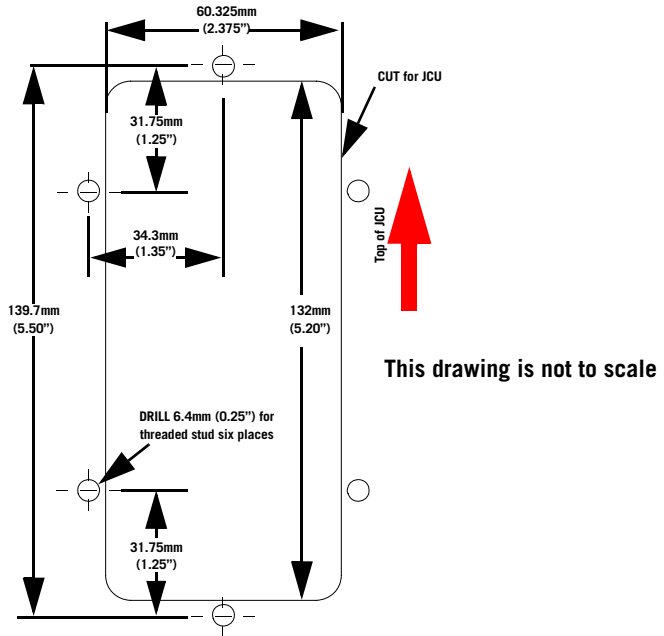

Figure 3-6: Joystick Control Unit mounting template
Step 1 Drill holes for the six studs and cut an access hole for mounting the Joystick Control Unit per the installation template provided in paragraph 7.2 “Joystick Control Unit Mounting Template.” on page 27. A sketch is shown below in Figure 3-6.